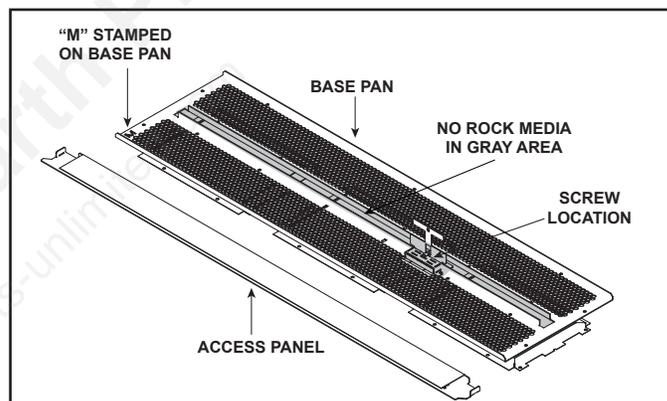

Figure 2. Location of Rock Media Placement Jig
4. Place an even layer of rock media around the base pan as shown in Figure 2 and Figure 3. Do not place rock media in the slot over the burner ports. See Figures 2 and 3. Figure 2 shows an outline of the burner tracks and the area in front of the pilot assembly. No rock media may be placed in the outlined area. Continue